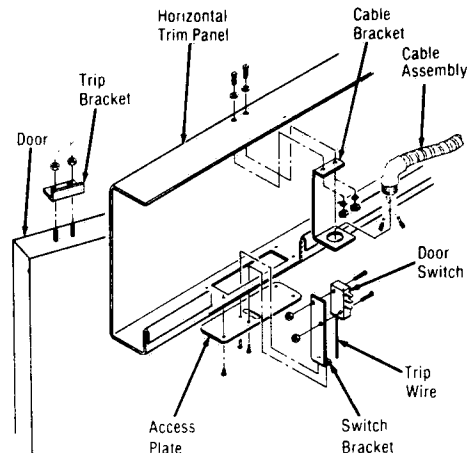

Figure 8-11. DOOR SWITCH
2. If adjustment of the trip bracket is necessary, loosen the hex head nuts securing the bracket to the door, and reposition as required, as shown in Figure 8-11.
3. If replacement of the door switch is necessary, remove the screws securing access plate to trim panel. Remove access plate and replace switch as shown in Figure 8-11.